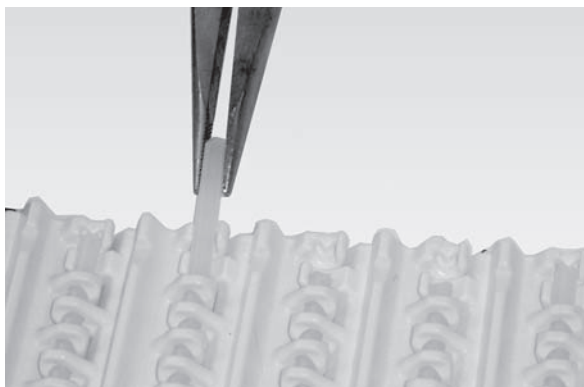

Figure 36
- Remove the belt rod by gripping the end with a set of pliers and pulling (Figure 36).